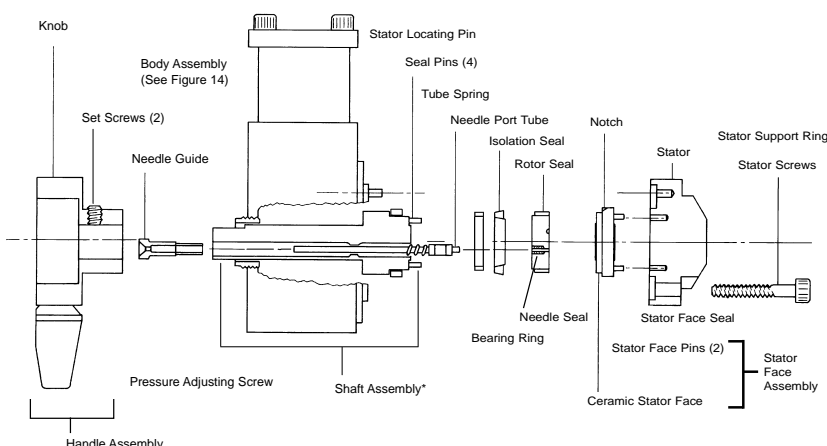

Fig. 15. Model 9126 valve assembly.
- Remove the needle port tube by pulling off the needle guide and letting the tube slip out of the rotor assembly (see Figure 15).
To disassemble the valve, refer to Figure 15 and proceed as follows: